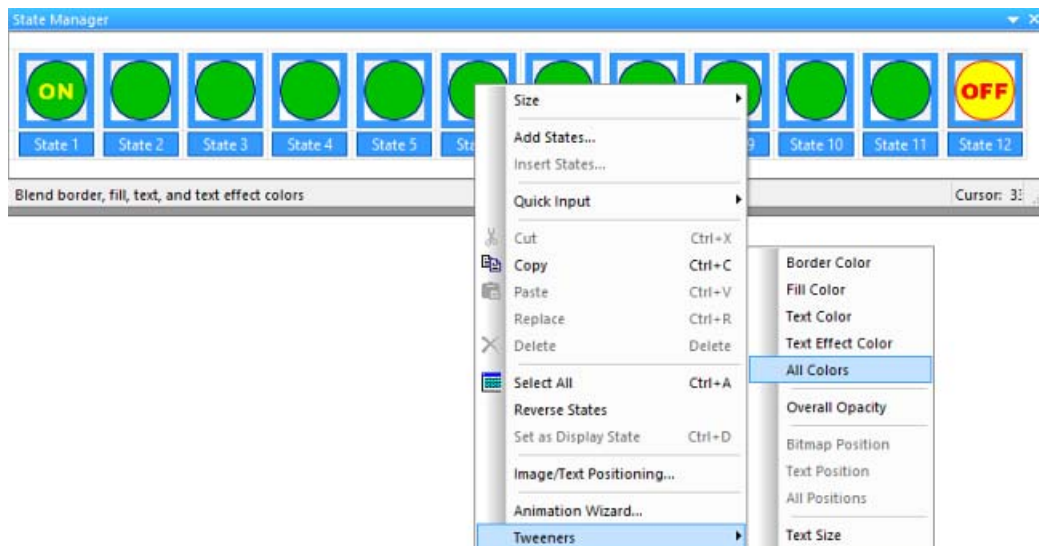

FIG. 312 State Manager - Tweeners sub-menu
4. Select all states in the State Manager window, and right-click to open the State Manager context menu (FIG. 312):